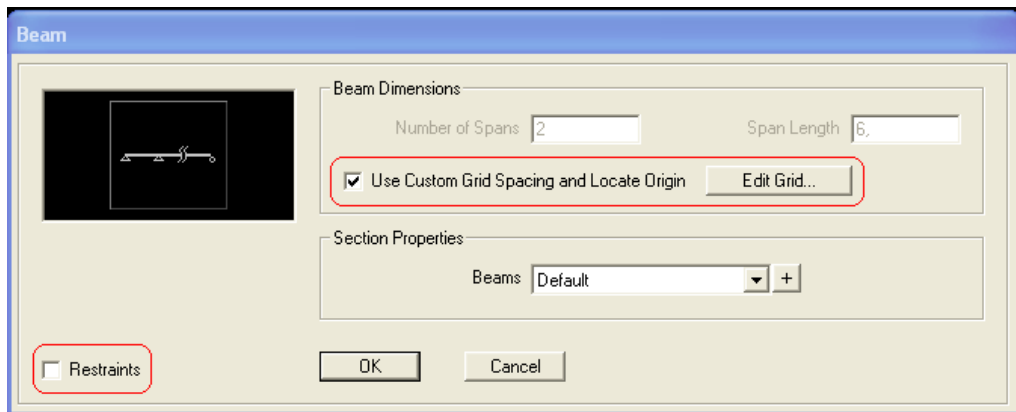
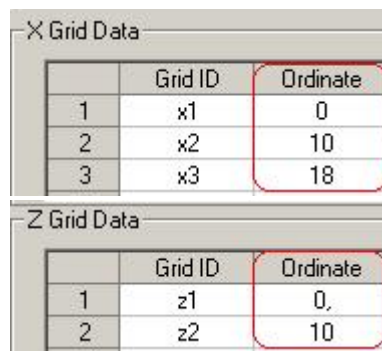

Figure 3
Figure 4
d) Defining Dimensions & Grid Generation: When you select beam, a new window will appear asking the dimensions required to draw the shape of the beam to be analyzed. To edit grids manually tick **Use Custom Grid Spacing and Locate Origin** box and hit **Edit Grid** button (Fig3).
Set ordinates on X Grid Data as $x_1=0$, $x_2=10$, $x_3=18$ and set ordinates on Z Grid Data as $z_1=0$, $z_2=10$ (Fig4). Hit OK after you define ordinates. Do not forget to remove click near the Restraints box to the lower left of beam window(Fig3). Otherwise Sap2000 assigns support conditions automatically.